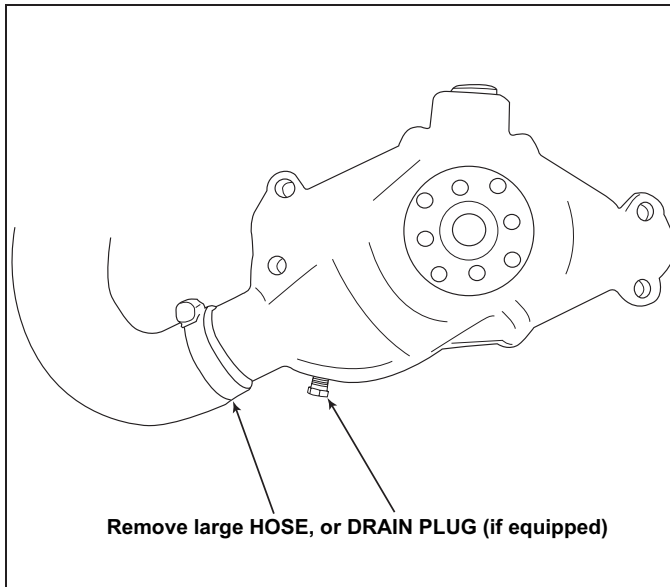

Figure 11-10 Draining Engine Circulating Pump (5.0/5.7L)
- Remove the large hose from the engine block water circulating pump, or drain plug on circulation pump. (See Figure 11-10.)